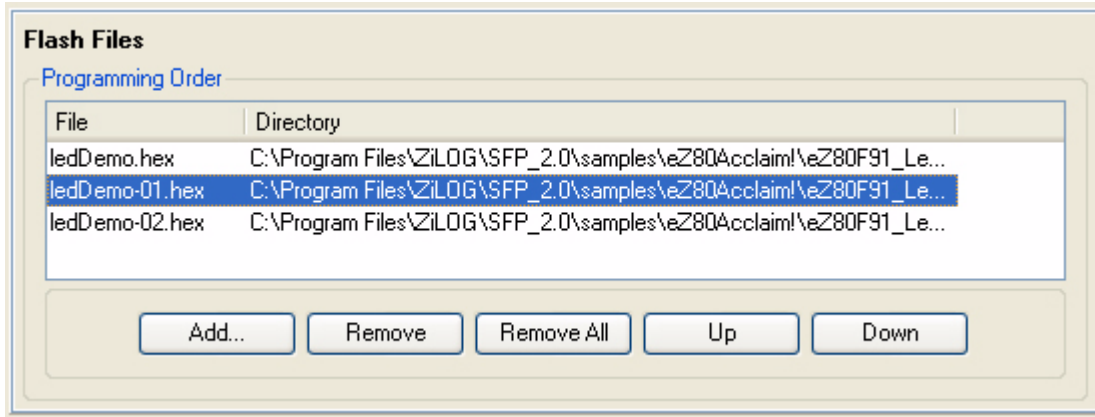

Figure 49. Flash Files Window
1. On the **Workspace** window, under the **Project** tab, click **Flash Files** link. The **Flash File** window (Figure 49) is displayed. For detailed description of the Flash files, see Flash Files Window .
2. In the **Flash Files Programming Order** section on the **Flash Files** window (Figure 49), click **Add**.
The Flash file selected will be displayed in the **Programming Order** section of the **Flash Files** window (Figure 49).